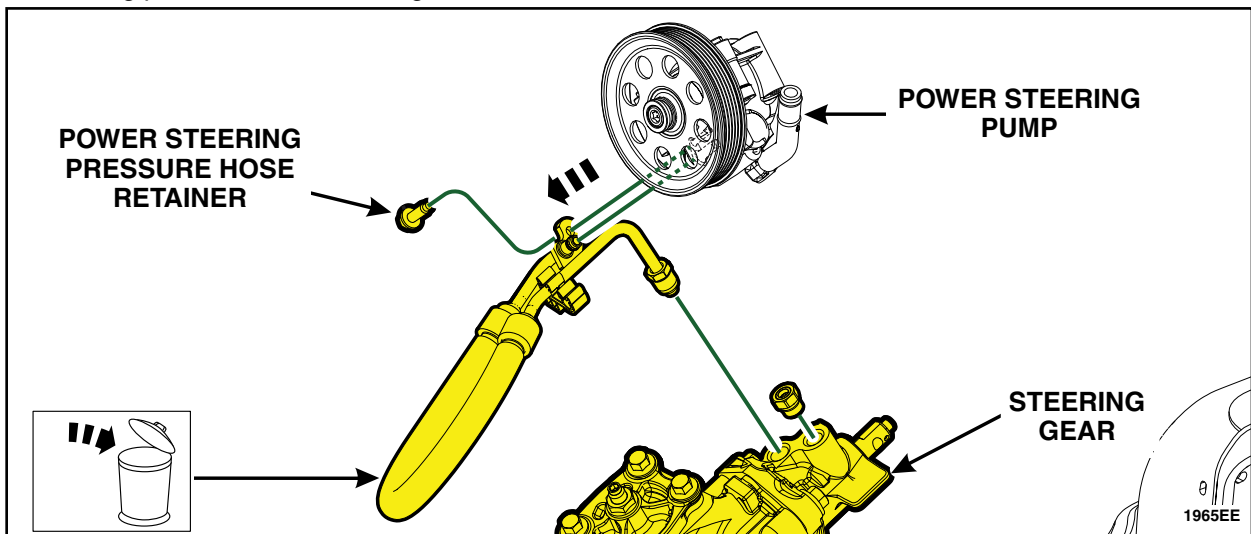

FIGURE 37
7. Remove the power steering pressure hose retainer at the power steering pump and discard the power steering pressure hose. See Figure 37.